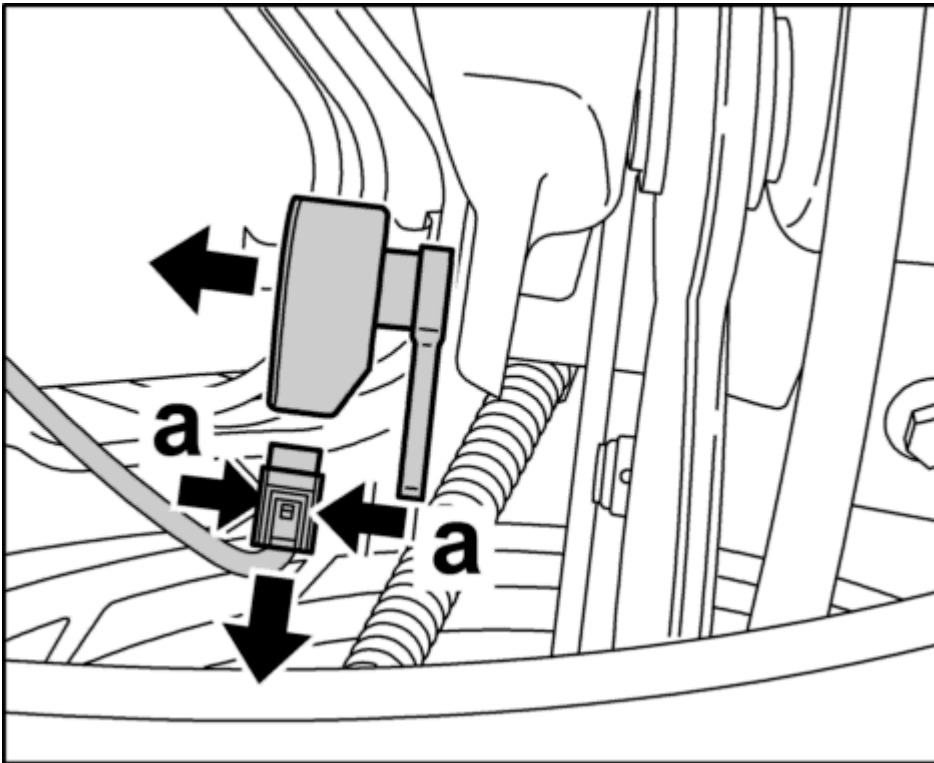

Fig. 14: Pressing electric connector together
3. Press the electric connector together -a- and pull it off. See **Fig. 14**.